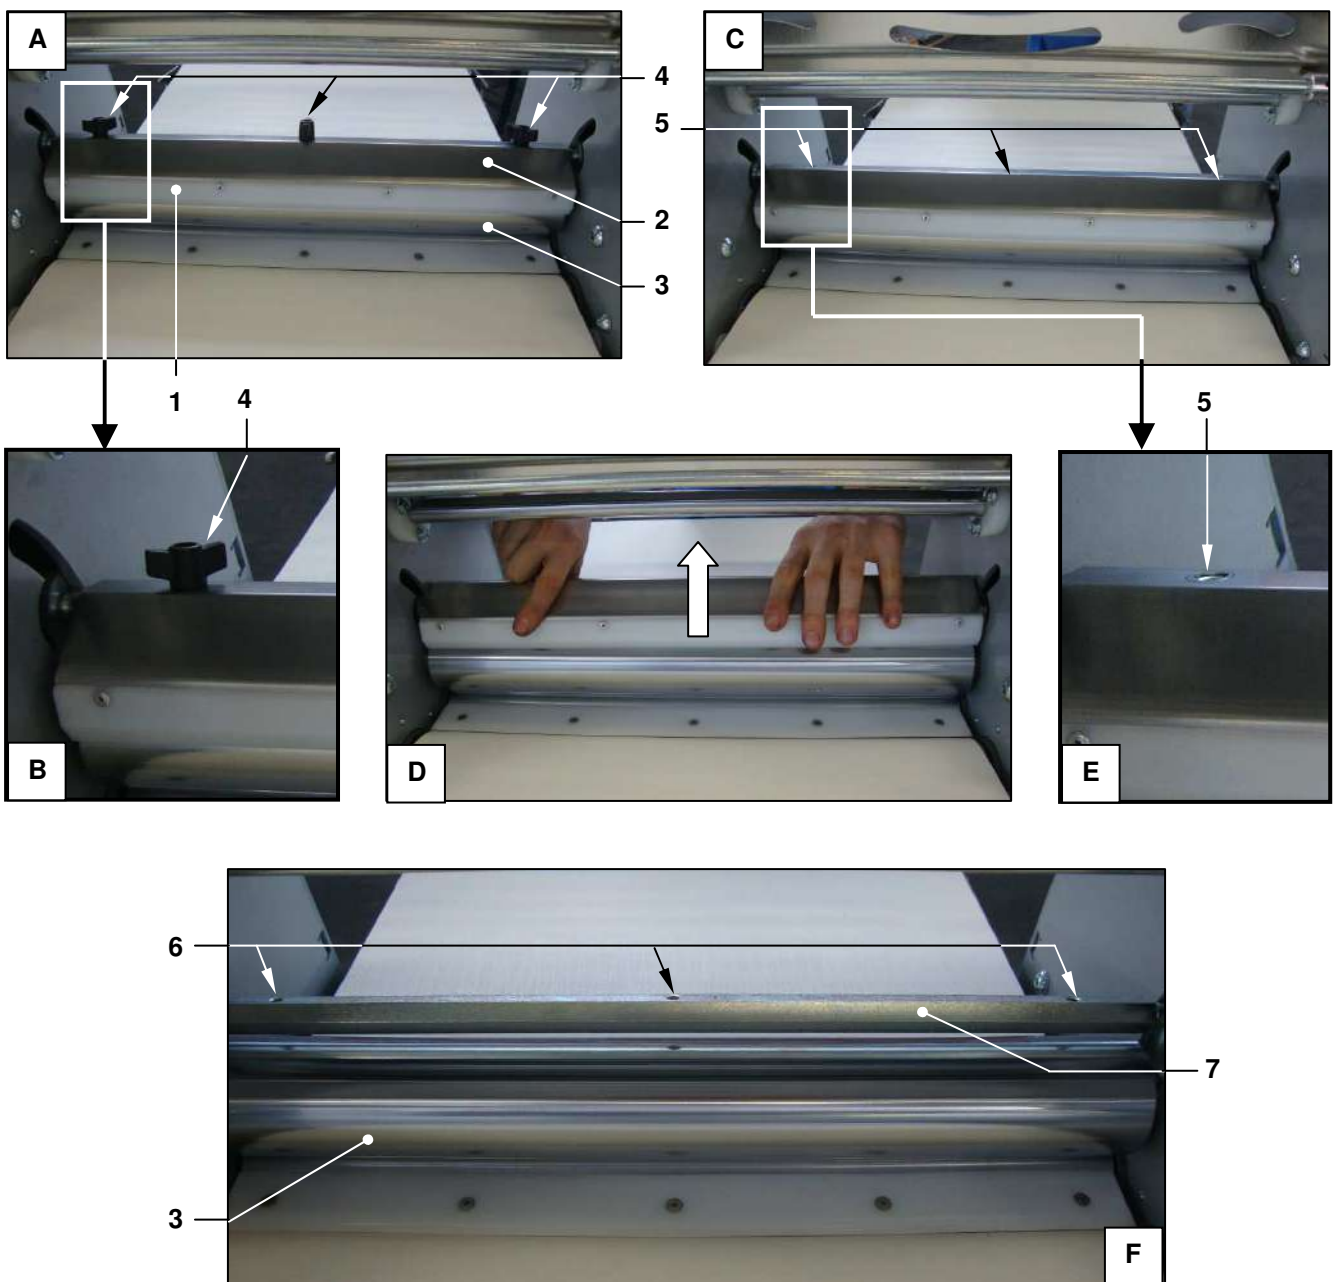

Figure 33 - Removing/installing the upper roller scrapers
With reference to Figure 33 (the one shown is for mod. SF450, but the procedure is the same for other models), there are two scrapers ref. 1 installed on a single support ref. 2 that straddle the upper roller ref. 3.